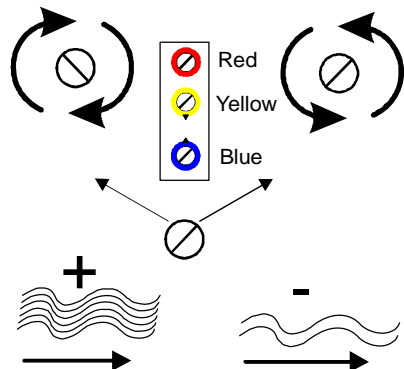

Figure 11: Flow Rate Adjustment
3. Adjust the control's flow rate (Figure 11):
Turn the adjustment screw **clockwise** to **raise** the flow rate required to activate the switch. See Figure 11.